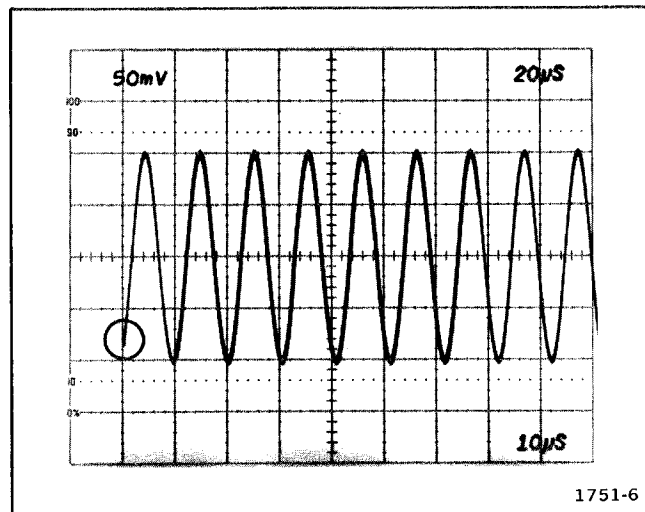

Fig. 5-6. Trigger Sensitivity. (Circle denotes correct trigger point).
Adjust—Trig Sens, R175, so the main sweep untriggers between 0.3 and 0.1 division from bottom of waveform as MAIN TRIGGERING LEVEL control is rotated through negative (—) portion of its range. See Fig. 5-6 for reference.
- a. Adjust—Trig Sens, R320, for a sweep trigger point at approximately 0.3 division from bottom of waveform as Delayed Triggering LEVEL control is rotated through negative (—) portion of its range. See Fig. 5-6 for reference.